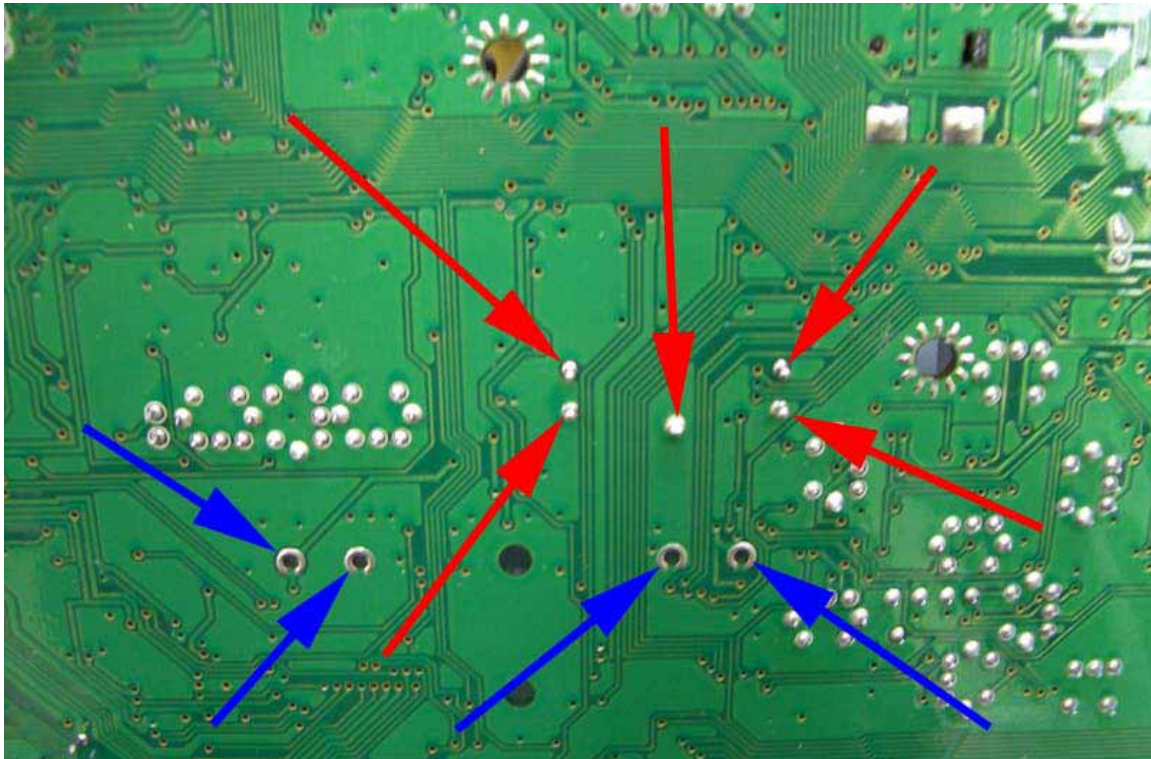
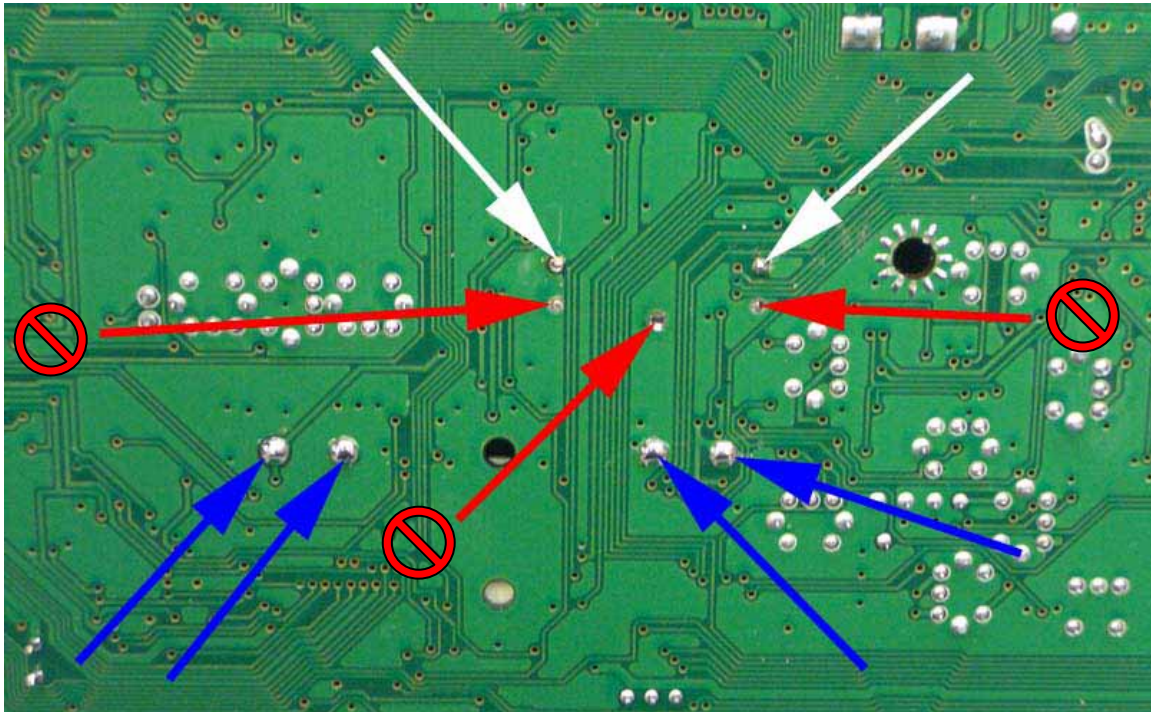
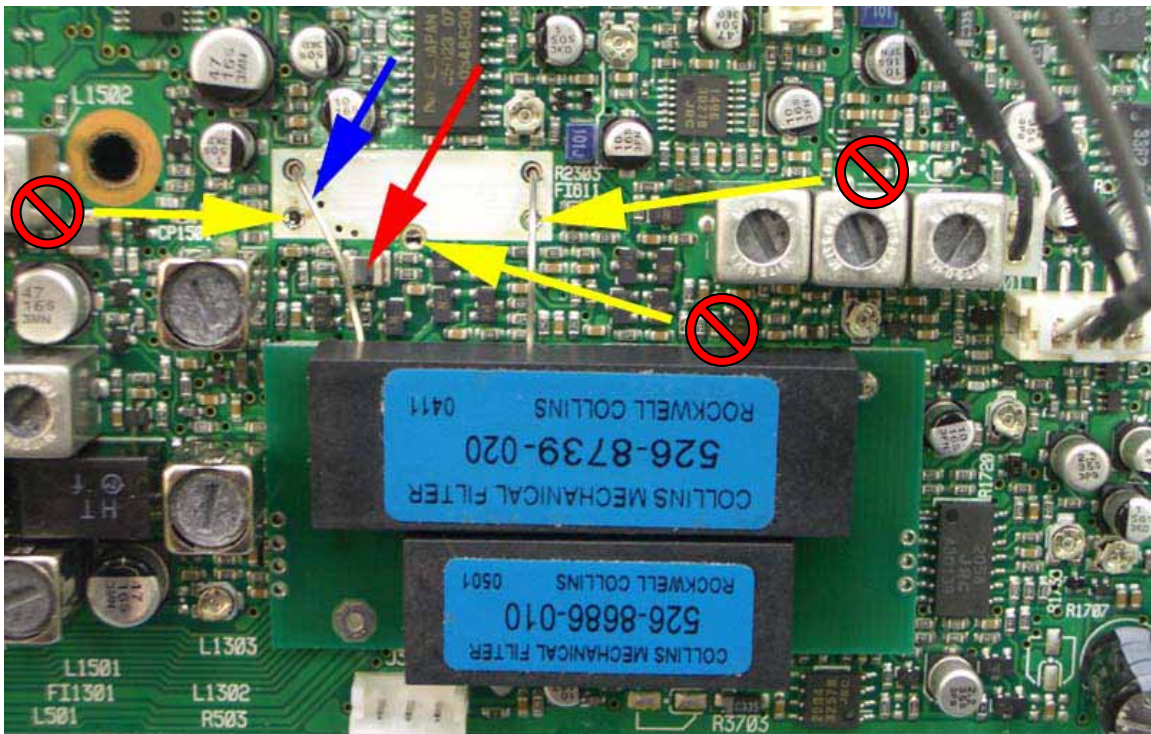

Figure 2
Figure 3
Figure 4
9. If you are to remove the MuRata filter from the PCB, then first CAREFULLY remove the solder from the five (5) points shown in Fig. 2 by the red arrows.
12. Notice the four holes denoted by the blue arrows in Fig. 2. These are discussed in Step 13.
13. CAREFULLY place the four (4) wires from the bottom of the OBF-718 into the four (4) holes (blue arrows) shown in Fig. 2. Also, route the two (2) wires from the top side of the OBF-718 through the holes indicated by the white arrows shown in Fig. 3. It is best to attempt to route all six (6) wires at the same time you place the OBF-718 onto the IC-718 PCB. Do not put wires in the holes denoted by the red arrows in Fig. 3 (same as the yellow arrows in Fig. 4 when viewed from the other side of the PCB). **WARNING: Be sure that the wire from the OBF-718 denoted by the blue arrow in Fig. 4 does NOT touch the inductor shown by the red arrow.**
14. CAREFULLY solder the six (6) locations denoted by blue and white arrows in Fig. 3. Cut off excess wire length from the OBF-718.